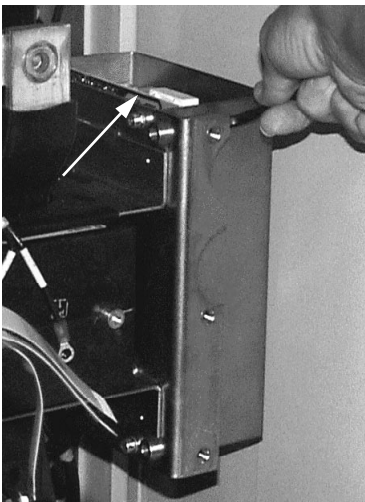

Figure 4.3.49: Overtemperature Power Supply Cover
3. Loosen and remove the two hex head screws that secure the power supply cover to the side panel (see Figure 4.3.49). The screws are located just behind the upper and lower right-hand screws that secure the output terminal assembly. Remove the cover from the drive controller.